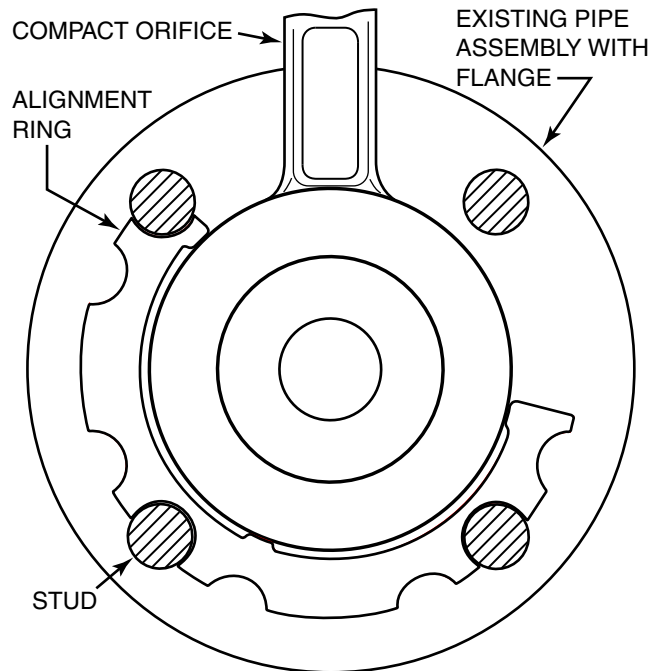

Figure 6. Use of Alignment Ring
4. Insert the orifice plate between the flanges so that the alignment ring indentations marked with the appropriate flange rating contact the installed studs. See Figure 6.